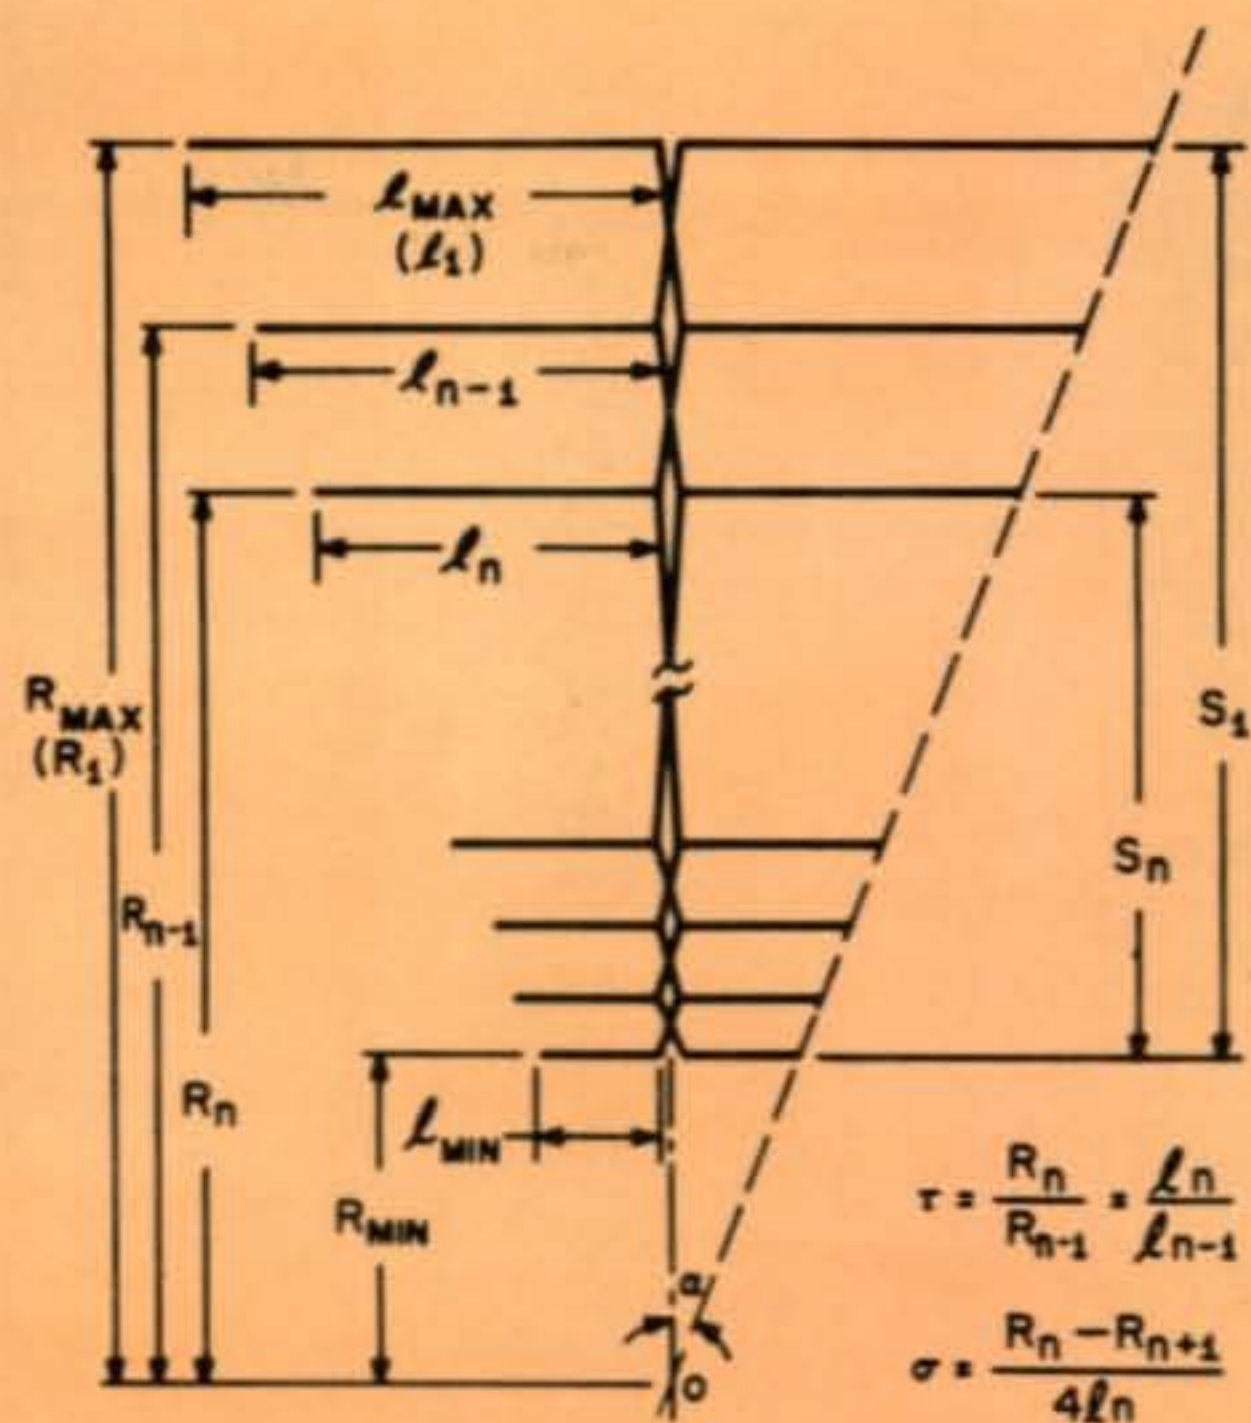

Fig. 7—LP dipole antenna and design nomenclature.
AS IN Part I, we will continue to consider the planar log periodic dipole antenna. Figure 7 illustrates this type of antenna, and shows the notations of design parameters which will be used with this article.
Note the fact that the phasing of adjacent dipoles is reversed in fig. 7. This is easily accomplished mechanically by having twin booms (insulated from each other) mounted one above the other. Then the left end of one dipole is mounted on the upper boom, and the right end mounted on the lower boom. This is reversed for the next dipole in line, and so on, resulting in each half of the an-
Referring back to fig. 7, both the element length (l) and spacing (R) from the point of origin (O) of the array are related to the preceding element by the scale factor (τ). That is: